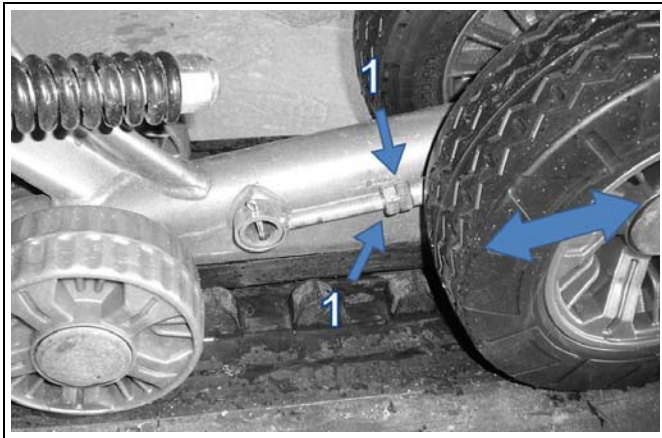

Figure 24
- Set rubber track tension to the minimum (refer to Figure 24).